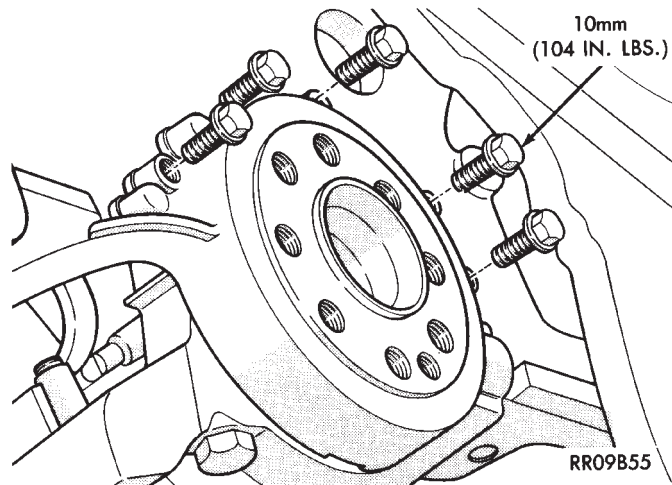

Fig. 68 Rear Seal Assembly
- (2) Remove rear oil seal retainer and seal as assembly (Fig. 68).
- (3) Release monoblock main bearing cap bolts evenly. Remove lower bearing shells and identify for reassembly.